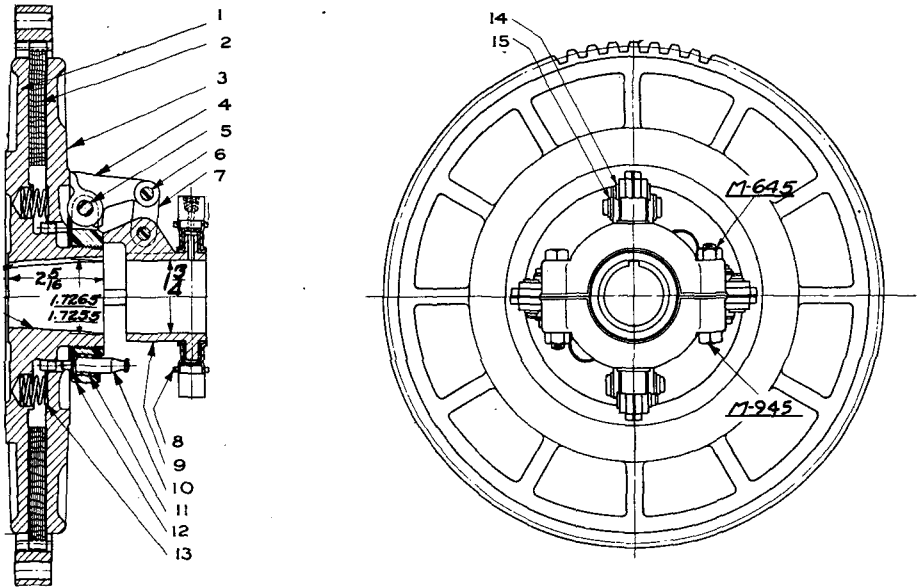

Fig. 27 - Master Clutch
MASTER CLUTCH (Fig. 27)
**MASTER CLUTCH ADJUSTMENT (Figure 27)**